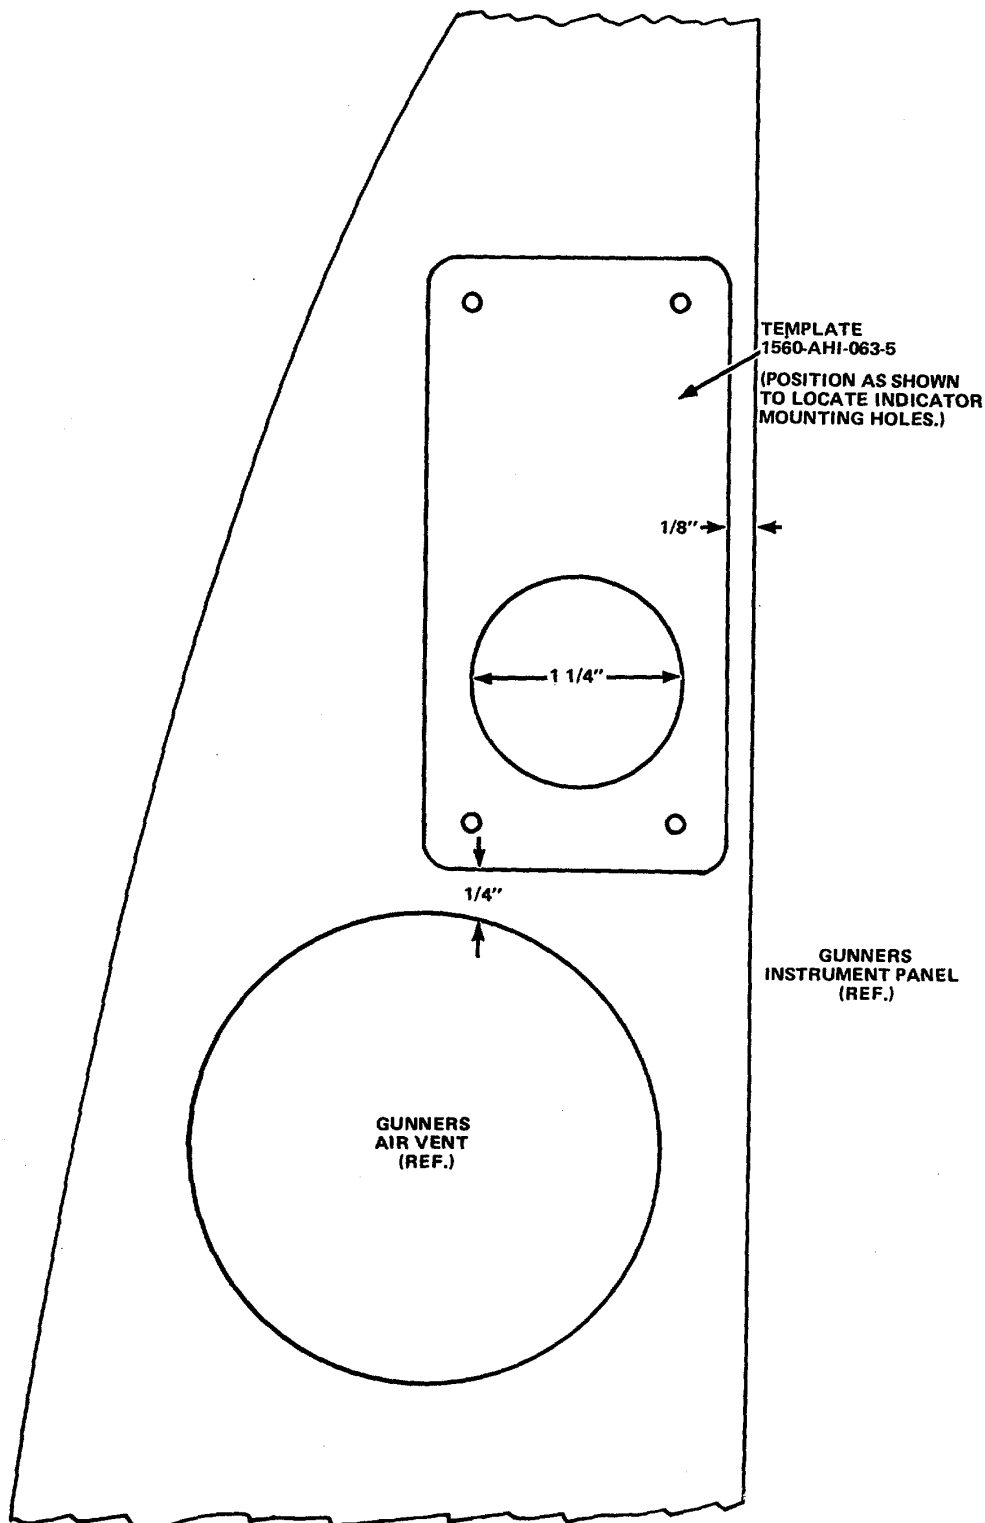

Figure 2-2. Remote Indicator Location.
(15) Using template 1560AH1-063-5, drill one 1 1/4 inch diameter hole and four 1/8 inch diameter holes in the panel above the left air vent and adjacent to the gunner instrument panel (fig. 2-2). Install dust cover 51021 in 1 1/4 inch hole if remote indicator is not to be installed.
(16) Perform continuity check on cable assembly 1560AH1-063-3.
(17) Tie cable assembly 1560AH1-063-3 as required with electrical tiedown straps MS3367-1-9.
(18) Reinstall all items previously removed in paragraph b.
(19) Return aircraft to flight configuration.